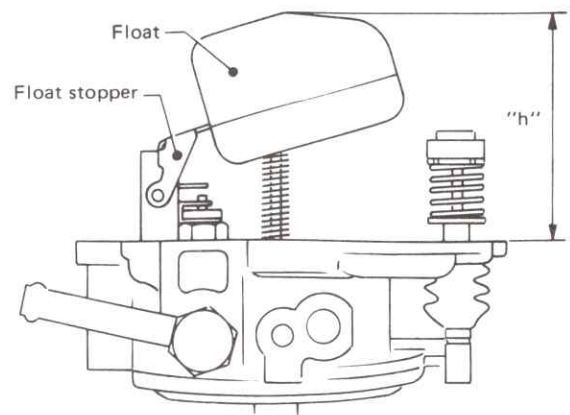

Fig. 3.18 Bottom float position (Sec 13)
- 16 Now turn the top cover over and allow the float to hang free. Again measure distance H. If out of adjustment bend the float stopper (photo) and Fig. 3.18.